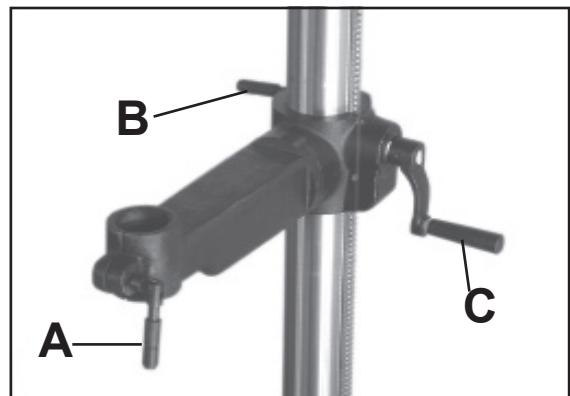

Figure 18
3. Tighten the locking lever (A-fig.18) onto the table support bracket (B-Fig.18) and install the table raising/lowering handle (C-Fig.18).